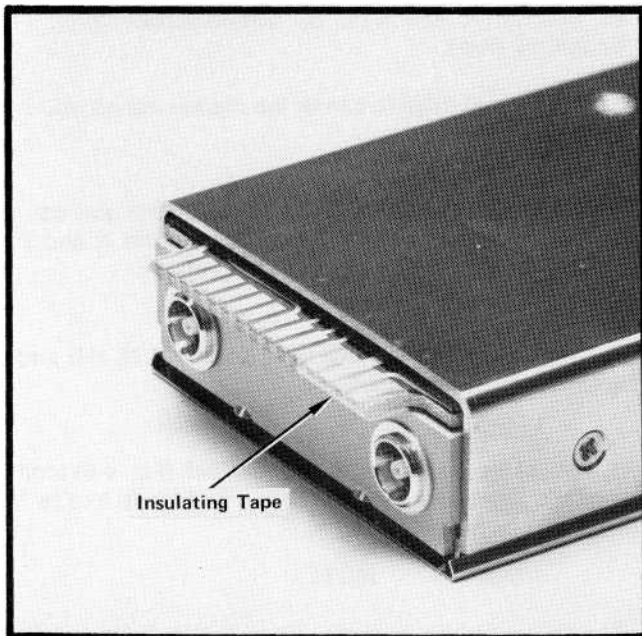

Fig. 4-4. Plug-in module connector partially insulated so the Hi Z calibrator level can be adjusted.
- a. Remove the plug-in module and place insulating tape (e.g., Scotch tape) over pins A13-B13, A14-B14, A15-B15 of the interface connector (Fig. 4-4), then re-insert the plug-in module in its compartment.